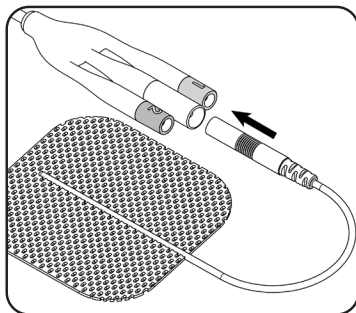

Figure 7. Insert the ground pad connector into the center, white connector of the Basic Trial Cable.
1. Place the ground pad on the lower back. Connect its cable to the ground connector on the Basic trial cable (if using the ground pad) (**Figure 7**).